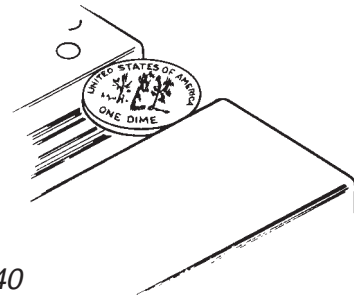

Fig. 40
1. Check for proper door gasket seal by placing an American dime between the inside of the door and the cabinet. The gap should not be less than, or greater, than then diameter of the dime (11/16"). (Fig. 40)